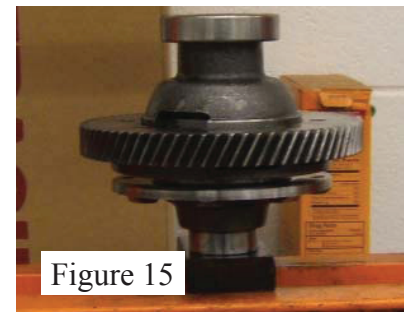

Figure 15
19. Place the other half of the TCS case half onto the springs. Then place the top differential case & ring gear with installed side gear, onto the friction surface of the TCS body. See figure 15.